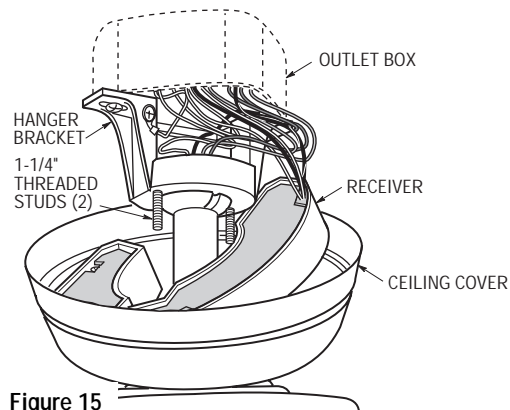

Figure 15
- 4. Insert the connected ends of the wires up through the open side of the hanger bracket and into the outlet box as shown in Figure 15.
- 5. Screw two 1-1/4" threaded studs (supplied with the ceiling fan) into the tapped holes in the hanger bracket (Figure 15).